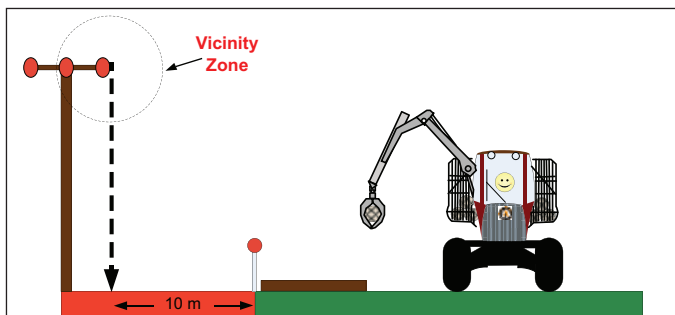

Figure 5: Timber layout and extraction
- Timber must be placed at least 10 m from the OHPL to enable safe extraction when the line is re-energised (see figure 5.);
- 46 Do not operate a forwarder or skidder if any part of the machine or its load (product being lifted) is likely to come within 10 m of energised OHPLs. Where necessary, clearly mark the limit of work in relation to the energised OHPLs (see Figure 5). Use high-visibility tape or other markings.